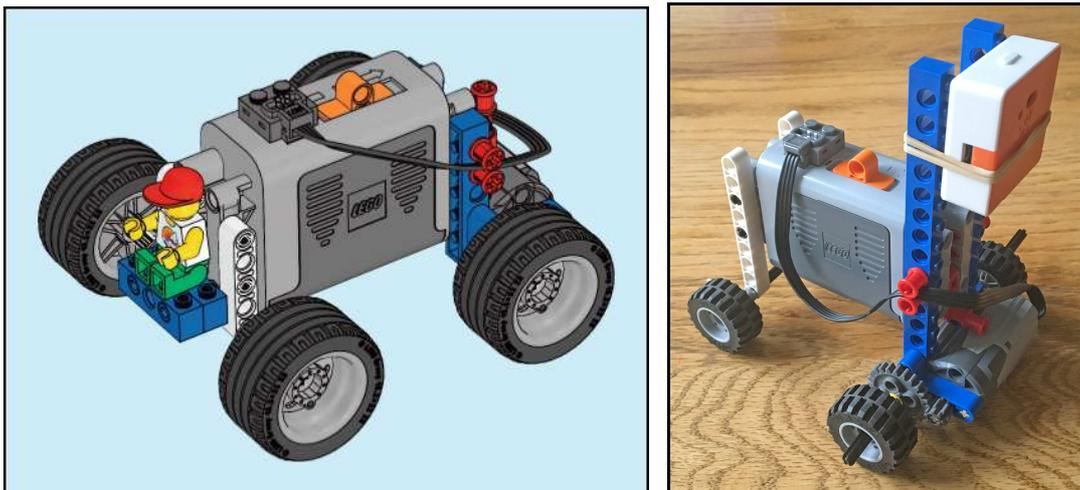
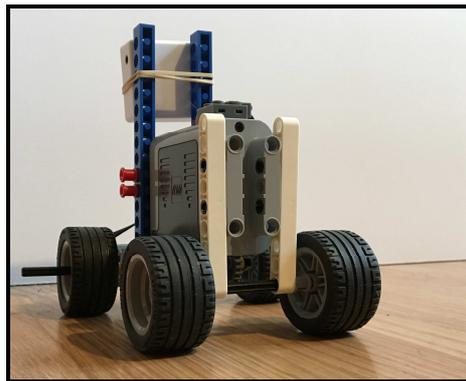

Figure 1
Figure 2
1. Construct the LEGO® powered car shown to the left of Figure 1 and having detailed instructions at the URL at the end of this document. A *slightly* modified optional version constructed by the author is shown to the right in Figure 1. Taller blue supports were used so that Voyager could be attached to the rear of the car with rubber bands. The IR sensor on the orange side of Voyager faces a wall (see Figure 2) from which the powered car is initially started. The 8t (tooth) gear on the motor and the 24t gear on the axle are seen to be interlocked. **Begin this lesson by using the *smaller* set of four wheels.**